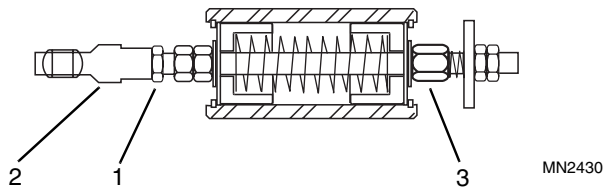

**Figure 7-28 Control Rods
If the wheels are rotating in a reverse direction, the overall length of the rod (Fig. 7-28, 1 or 4) will need to be shortened by adjusting the ball joints (2 & 3 or 5 & 6) closer together. If the wheels are rotating in a forward direction, the overall length of the rod (1 or 4) will need to be lengthened by adjusting the ball joints (2 & 3 or 5 & 6) further apart.
In either case, disconnect the ball joint (Fig. 7-28, 2 or 5) at the travel/steering lever. Adjust the ball joints in the appropriate direction, and ensure adequate thread engagement (Fig. 7-27, 2) on both ends.
18. Reconnect and tighten the transmission control rod ball joints (Fig. 7-28, 2 & 5) and hex jam nuts (7 and 8).